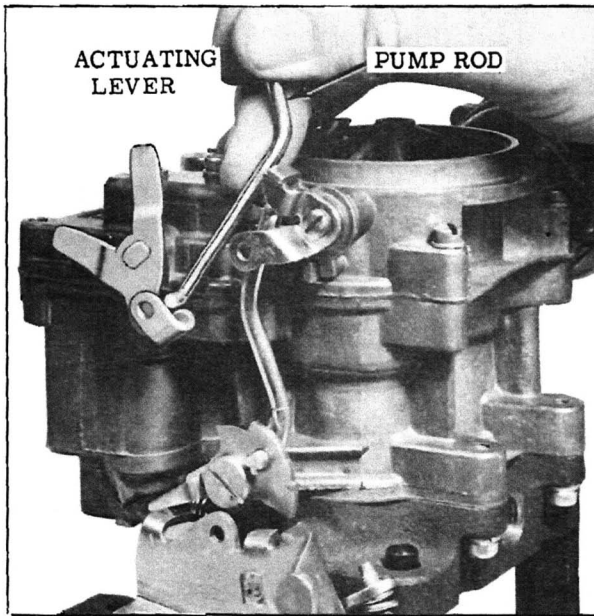

Fig. 36 Pump Rod (Center and Rear)
5. Install pump rod and retainers. (See Fig. 36 and 37)